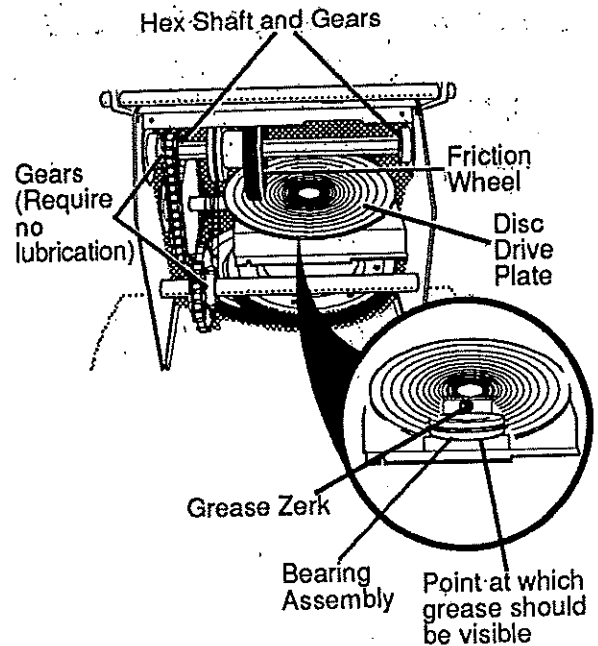

FIG. 2-MAINT
- Turn disc drive plate clockwise by hand until grease zerk is clearly visible at front center (See **FIG. 2- MAINT**).
- To grease zerk, use a hand grease gun, lubricate with a Hi Temp EP Moley grease. (See **FIG. 2-MAINT**, inset) **DO NOT** over fill or allow grease to come in contact with the disc drive plate or friction wheel or damage will result. Fill zerk only until grease becomes visible below bearing assembly located under grease zerk. (See **FIG. 2-MAINT** inset)
**NOTE:** For storage, the hex shaft and gears should be wiped with 5W-30 motor oil to prevent rusting (See FIG. 2-MAINT).